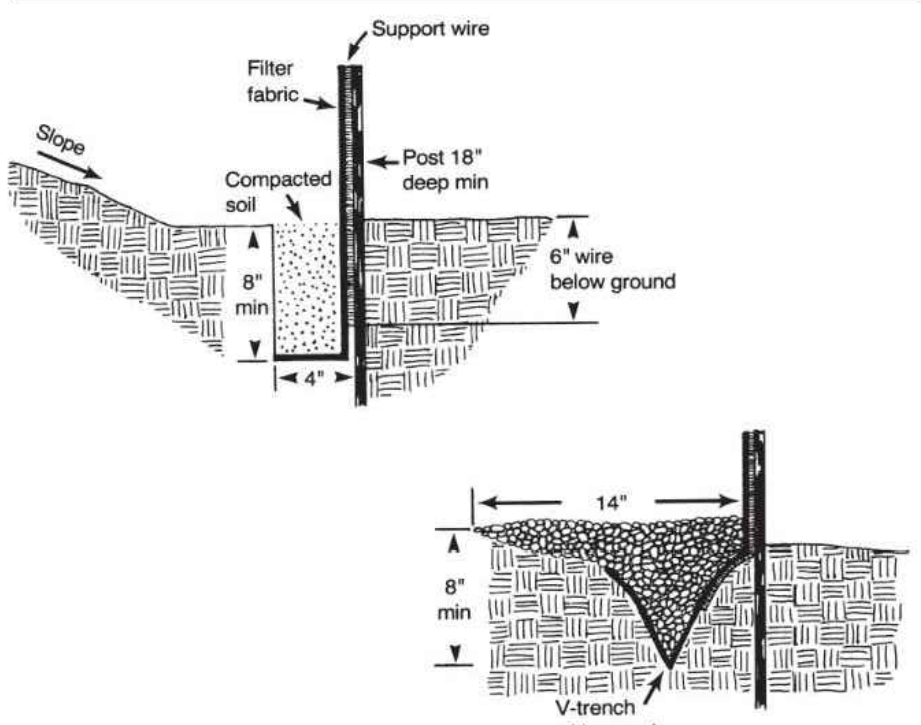

Figure 6.62d Detail of sediment fence installation.
**Construction** Dig a trench approximately 8 inches deep and 4 inches wide, or a V-trench, in the line of the fence as shown in Figure 6.62d.
Fasten support wire fence to upslope side of posts, extending 6 inches into the trench as shown in Figure 6.62d.
Place the bottom 1 ft of fabric in 8-inch deep trench lapping toward the upslope side. Backfill with compacted earth or gravel as shown in Figure 6.62d.